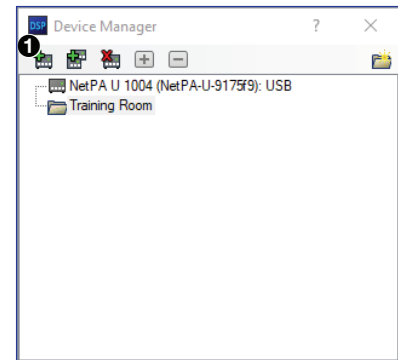

Figure 75. Adding a Device
2. Click the **Add Device** button (see figure 75, ①).